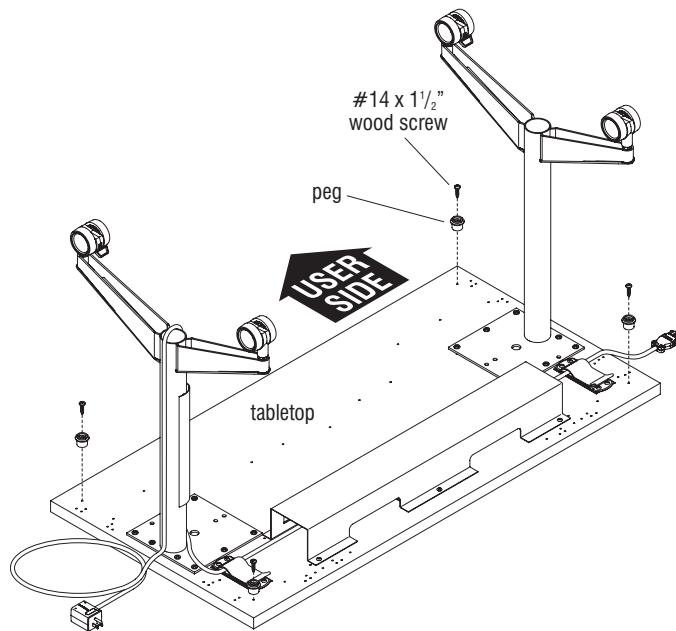

Figure 1
1. Locate the four pre-drilled peg mounting locations, one at each corner of the tabletop. Install a peg to each location using a #14 x 1½" wood screw at each peg mounting location (Figure 1).